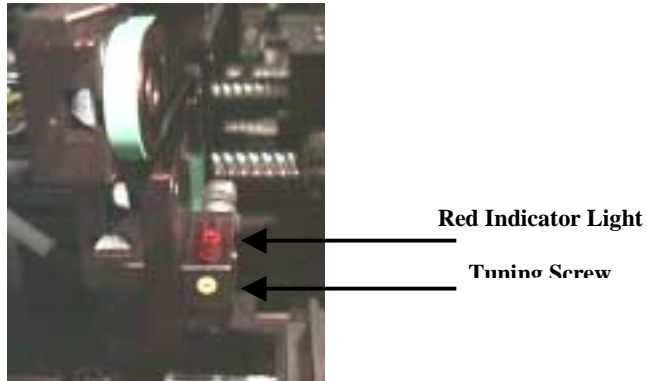

Figure 2.34 Board Sensor
4. Adjust the sensitivity of the sensor by turning the small yellow tuning screw on the sensor. This is illustrated in Figure 2.34: